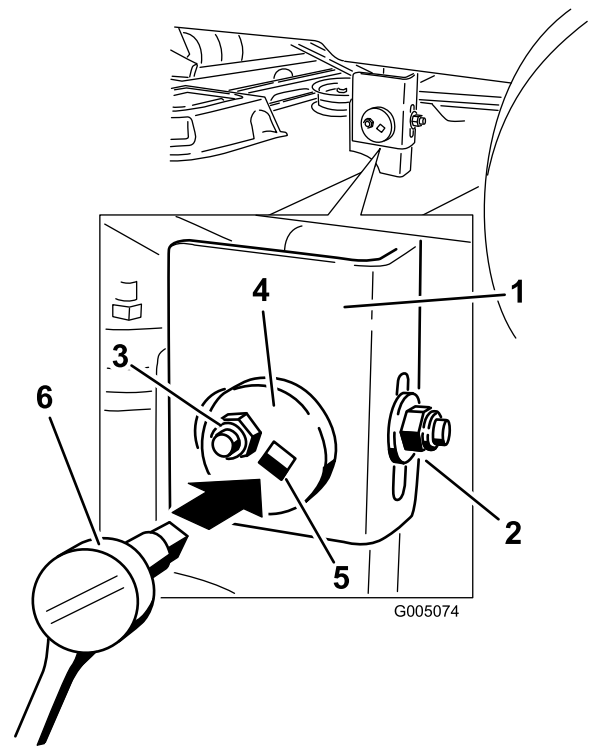

Figure 43
- Move to the left side of the machine. Loosen, but do not remove, the rear locking nut on the hanger bracket (Figure 43).
- Loosen the side locking nut on the hanger bracket just enough to allow the eccentric plate to be adjusted (Figure 43). Use a 3/8 inch drive extension on a socket wrench to manipulate the eccentric plate. Use the wrench to reposition the height of the mower deck and adjust to the desired height.
- Stop the deck at the adjusted position and tighten the side locking nut on the hanger bracket to hold the new position (Figure 43). Tighten the rear locking nut on the hanger bracket.